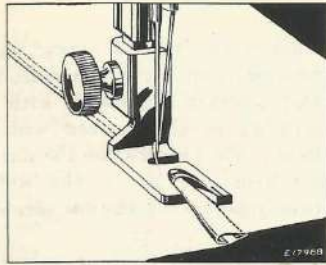

Fig. 50. Making a Felled Seam
2. Open the work out flat, wrong side up, and hem the free edge of the seam, stitching it flat to the garment, as shown in Fig. 50.